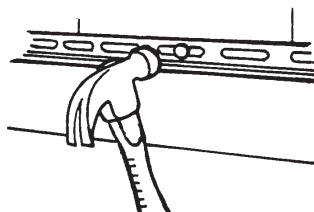

Figure 78.
- Lock on the new panel and nail it up (Fig. 78).